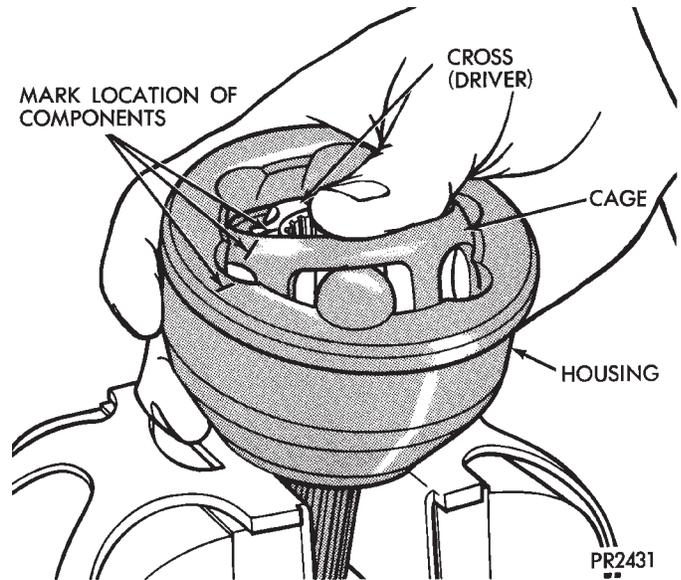

Fig. 5 Rotate Cage & Cross to Remove Balls
(7) With joint separated from the interconnecting shaft proceed as follows:
(8) Hold joint vertically in vise by clamping on splined shaft, using soft jaws to prevent damage.
(9) Wipe off surplus grease and mark relative position of inner cross, cage and housing with a dab of paint (Fig. 5).
(10) Press down on one side of inner race to tilt cage and remove ball from opposite side (Figs.5 and 6). If joint is tight, use a hammer and brass drift to tap inner race. **Do not hit the cage.** Repeat this step until **all 6** balls are removed. A screwdriver may be used to pry balls loose.